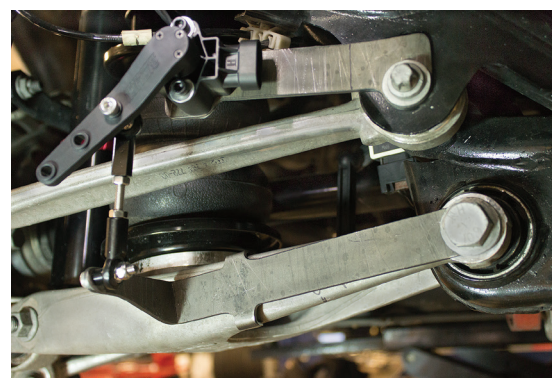

fig. 13
- Reinstall the inner toe link bolt with the upper bracket in place. There is a tab on the bracket that fits into a hole in the subframe. Torque to 100Nm (74 lb.-ft.). Reinstall the inner control arm bolt with the lower bracket in place. Make sure the tabs on the lower bracket hook over the control arm. Torque to 165Nm (122 lb.-ft.) (Fig. 13).
- Attach the height sensor linkage to the height sensor arm. Attach the height sensor to the upper bracket and the end of the linkage to the lower bracket. Torque the bracket and linkage to 2.5Nm (22 lb.-in.) (Fig. 13).